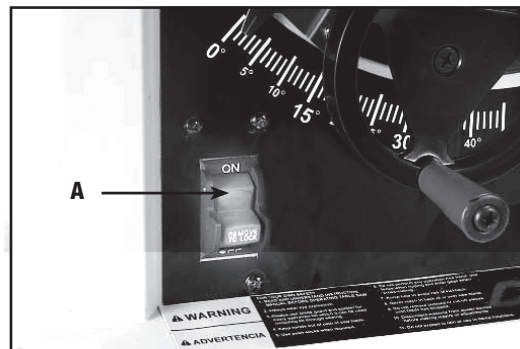

Fig. 27
The on/off switch (A) Fig. 27 is located on the front of the saw cabinet. To turn the saw "ON", move the switch (A) up to the "ON" position. To turn the saw "OFF", move the switch (A) down to the "OFF" position.